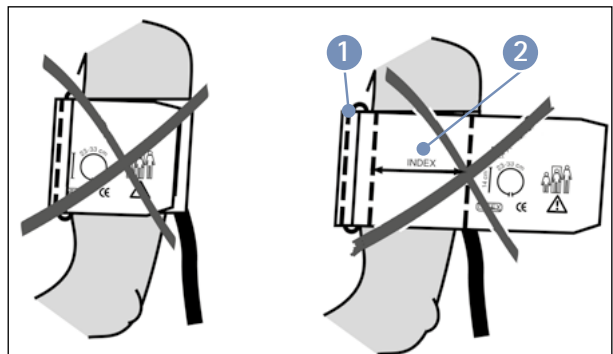

Figure 7-2: Wrong cuff size
① is inside the marked index range ②, and not outside (see figure 7-2).